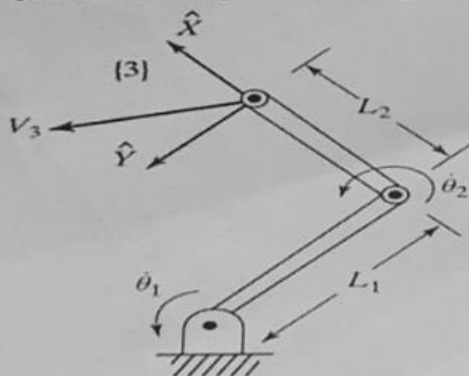

Figure-2
B) Identify the singularities of the simple two-link arm shown in below Figure -2. What is the physical explanation of the singularities for the given robot. Are they workspace-boundary singularities or workspace-interior singularities. (6 Marks)